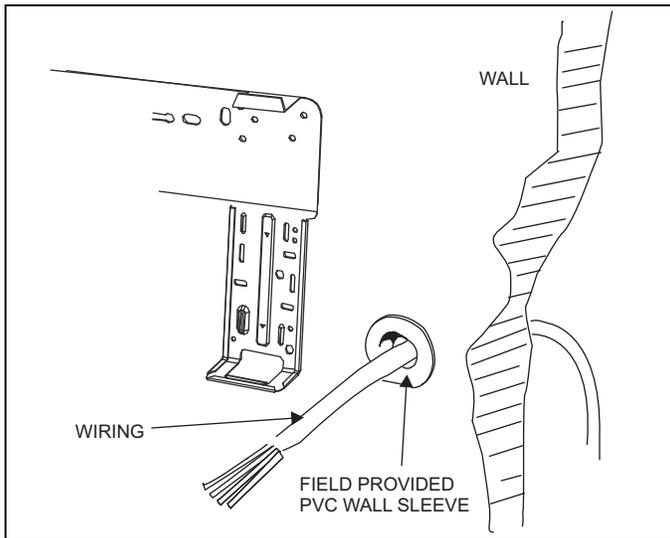

FIGURE 11: Indoor Unit Wall Mounting Bracket
2. Use the wall mounting bracket as a template to determine the exit point for utility bundle. Use a carpenter's level or tape measure to verify the wall mounting bracket is horizontally level and mark the boring points on the wall. See Figure 11.
4. Insert the connecting cable (according to local codes) into the pipe hole on the wall. See Figure 11.